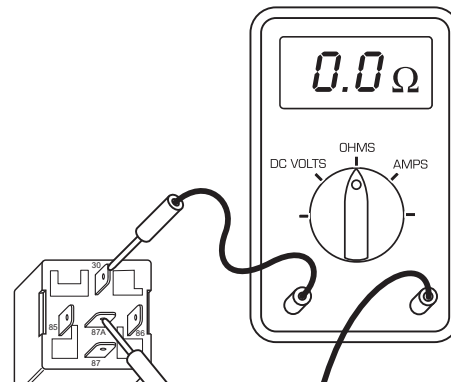

Figure 51
1. Continuity test. Connect ohmmeter between terminals 87A and 30 (Figure 51). Ohmmeter must indicate **continuity**.